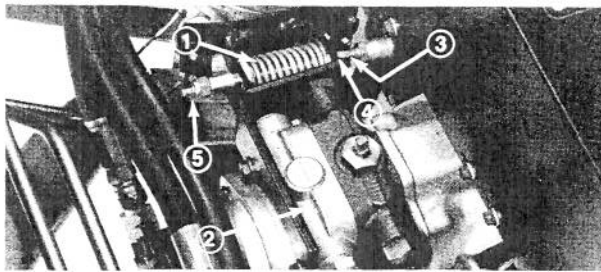

Figure 85
REMOVING AND REPLACING TRACTION AND CUTTING UNIT PUMP ASSEMBLY (Fig. 85)
4. Disassemble and remove traction lever and equalizer assembly from traction pump (Fig. 85).
4. If wheel is rotating, stop engine, lift engine cowl, remove floor plate, lower cowl and restart engine. Loosen jam nut, and turn equalizer rod clockwise if wheel is rotating rearward, counter-clockwise if rotating forward until rotation stops (Fig. 85). Retighten jam nut.